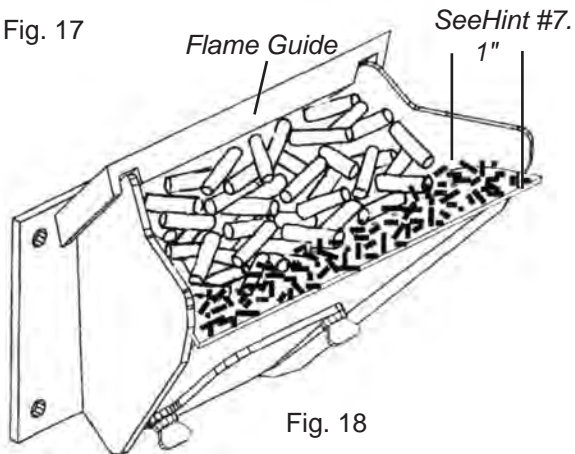

Fig. 18
7. Setting the feed adjuster # for maximum burn: With the unit burning in "AUTO", turn to "Stove Mode" and put the fan on "H". Set the Temperature Dial to #7. Allow the unit to burn for about 30 minutes and check ash on front of burn pot. Fig. 18. If the ash line is larger than 1", turn the feed adjuster from #4 to #5. Allow another 30 minutes of burn time and check again. If, at #6 setting, a 1" or less ash bed is not obtainable, it is not a problem. The 1" ash bed is only at maximum burn rate and at most normal settings the ash bed will be larger.